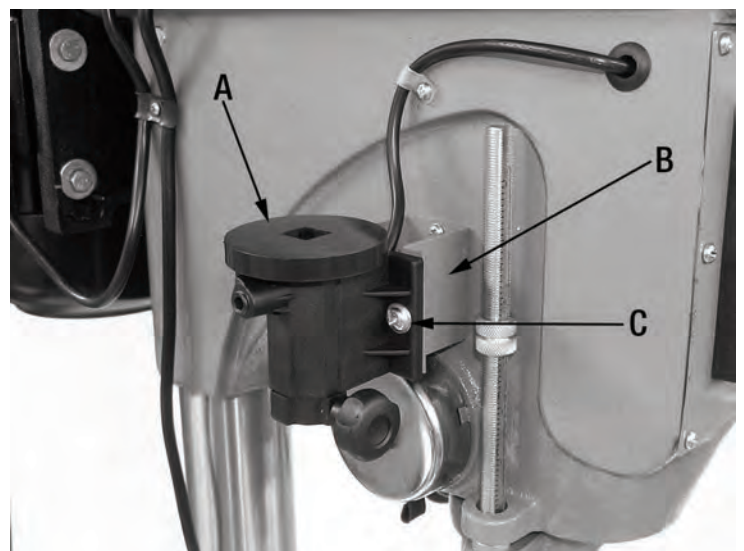

FIGURE 14
- 1) Mount the limit switch bracket (A) Fig.14 to the mounting bracket (B) using 2 pan head screws (C) as shown.